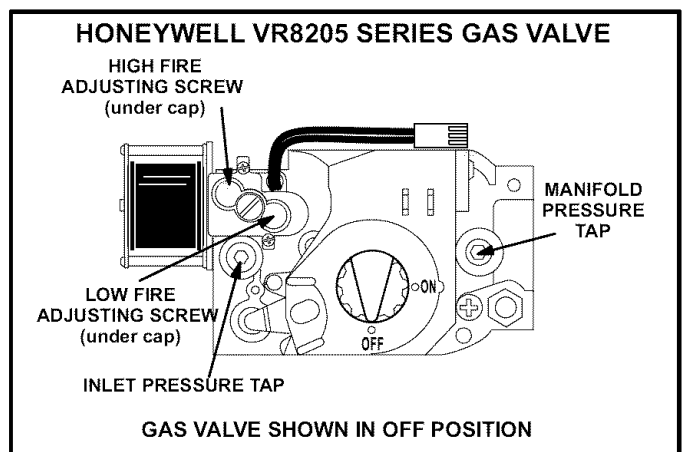

FIGURE 27
*Honeywell VR8205 Gas Valve* - Turn knob on gas valve clockwise ➡ to **OFF**. Do not force. See figure 27.
*Honeywell VR8205 Gas Valve* - Turn knob on gas valve counterclockwise ↶ to **ON**. Do not force. See figure 27.